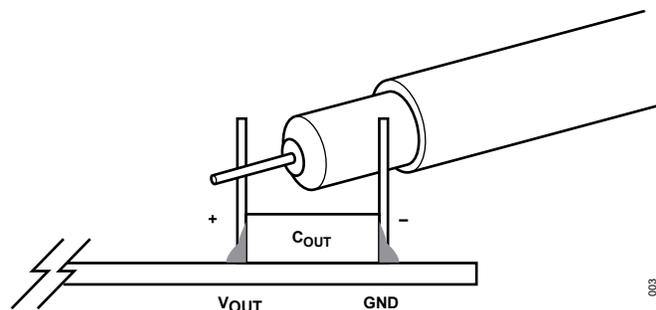

Figure 3. Technique for Measuring Output Ripple and Step Response with a Scope Probe
4. Set the electronic load to constant current (CC) mode with 0A current and connect to VOUT and GND.
7. Connect an oscilloscope voltage probe as shown in Figure 3 to avoid a long ground lead on the oscilloscope probe. For high-frequency output ripple measurement, it is recommended to use the micro-miniature coaxial (MMCX) plug on J1.
The output voltage ripple can be monitored using the onboard MMCX connector terminal (J1). Connect a short MMCX to a BNC cable from J1 to the input of a channel of an oscilloscope (scope probe ratio 1:1, 50Ω impedance) to observe output voltage ripple. The output voltage ripple can also be measured by the closed-loop passive probe. When measuring the output voltage ripple, do not use the long ground lead on the oscilloscope probe. See Figure 3 for the proper scope probe technique. Short, stiff leads need to be soldered to the (+) and (-) terminals of an output capacitor.